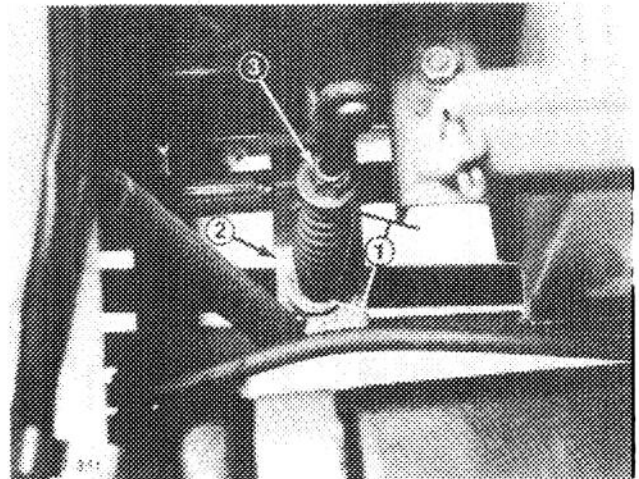

Figure 56
3. Measure length of PTO spring between flat-washers (Fig. 56). There should be a spring length of 3-3/16 inches (81 mm).
4. To adjust, hold head of adjusting screw with wrench (under PTO actuating arm) and turn locknut (Fig. 56).